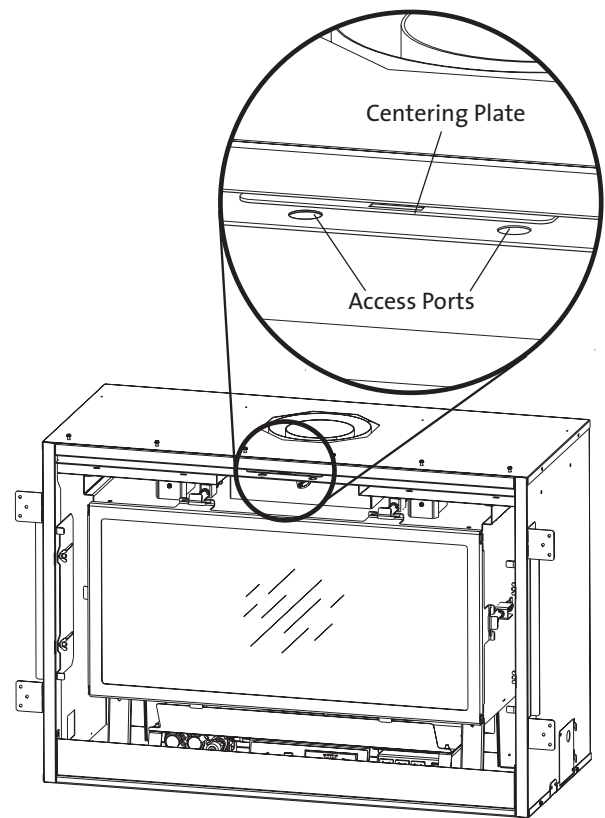

Figure 6.15.
1. Use a 1/4" socket driver or flat screw driver to loosen the two sheet metal screws that secure the Centering Plate (Fig. 6.15). Pull the Centering Plate out to the depth appropriate to clear the finished wall surface.